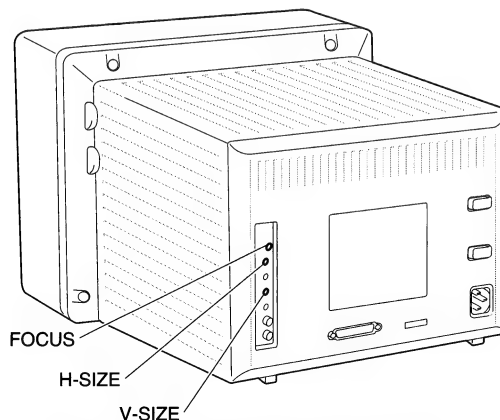

Figure 4 Size and Focus Controls
2. FIGURE 4. Turn the H-SIZE control until the raster is 235 mm wide.
2. FIGURE 4. Turn the V-SIZE control until the raster is 176 mm high.
2. FIGURE 4. Turn the FOCUS (RV701) control for the best focus at the center of the screen.